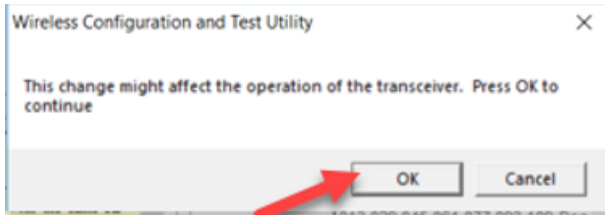
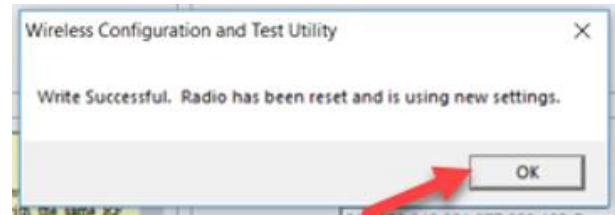

Figure 16: OK to continue
Figure 17: OK to close
- Click **OK** when prompted (Figure 16). The CU will return Write successful message (Figure 17) when complete. Click **OK** to close the message.